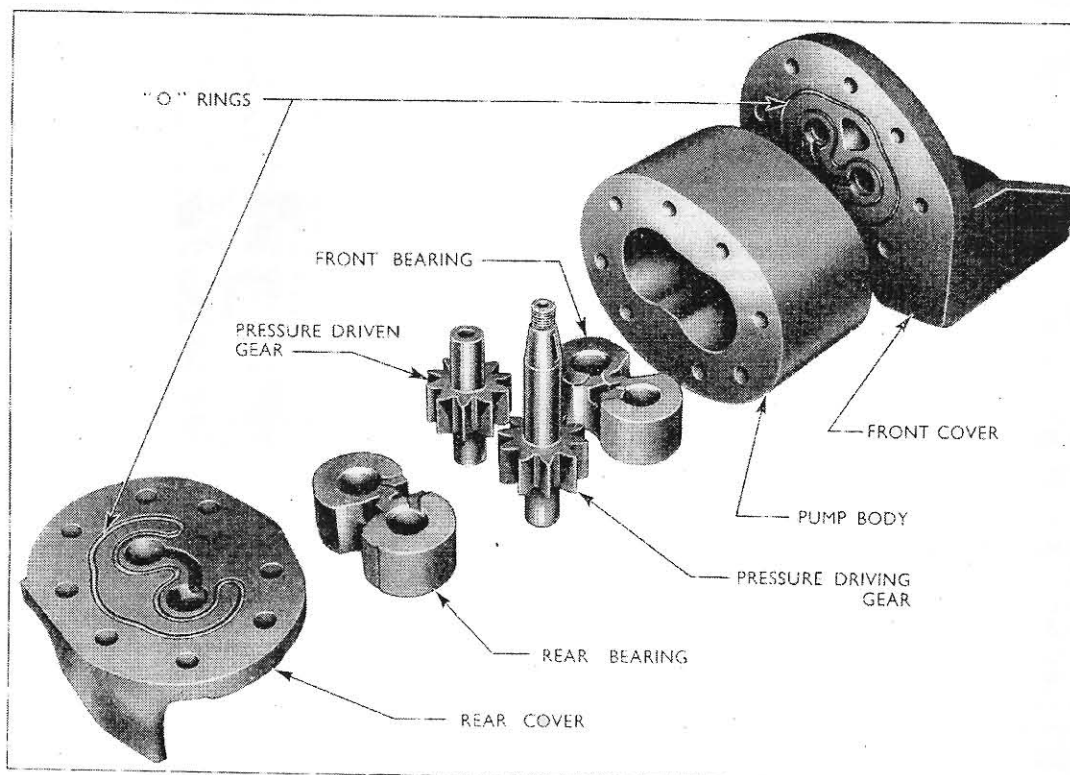

Fig. 42 Hydraulic Pump Body, Gears and Bearings
The two bearings, although of similar appearance are not identical and they must be assembled in correct relationship to the gears and housings. The pump main body should be placed on the bench on its side and the gears and bearings arranged as shown in Fig. 42. In this position the right-hand (front) bearing will have the small run-out slots from the oil ducts at the **upper** end of the **right-hand** (high pressure) ducts and the **lower** end of the **left-hand** (low pressure) duct.
1. With the right-hand (front) bearing in the position shown in Fig. 42, i.e. with the plain side of the bearing downwards and the run-out from the bores to the left (i.e. low pressure side of pump) assemble the pump pressure driven gear to the further bore of the bearing.